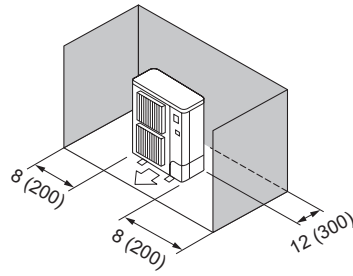

Fig. 2-8
- ③ Obstacles at rear and sides (Fig. 2-8)